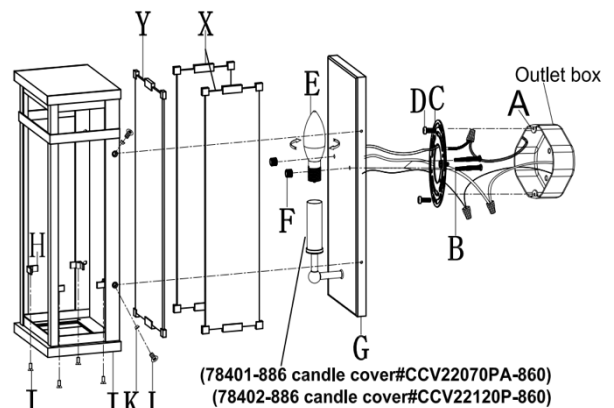

Fig. 2
## CONNECTING THE WIRES (Fig. 2).
7. Connect the electrical wires as shown in Fig.2. Making sure that all wire connectors are secured. If your outlet box (A) has a ground wire (green or bare copper), connect fixture's ground wire to it. Otherwise, connect fixture's ground wire directly to the mounting plate (C) using green screw provided.